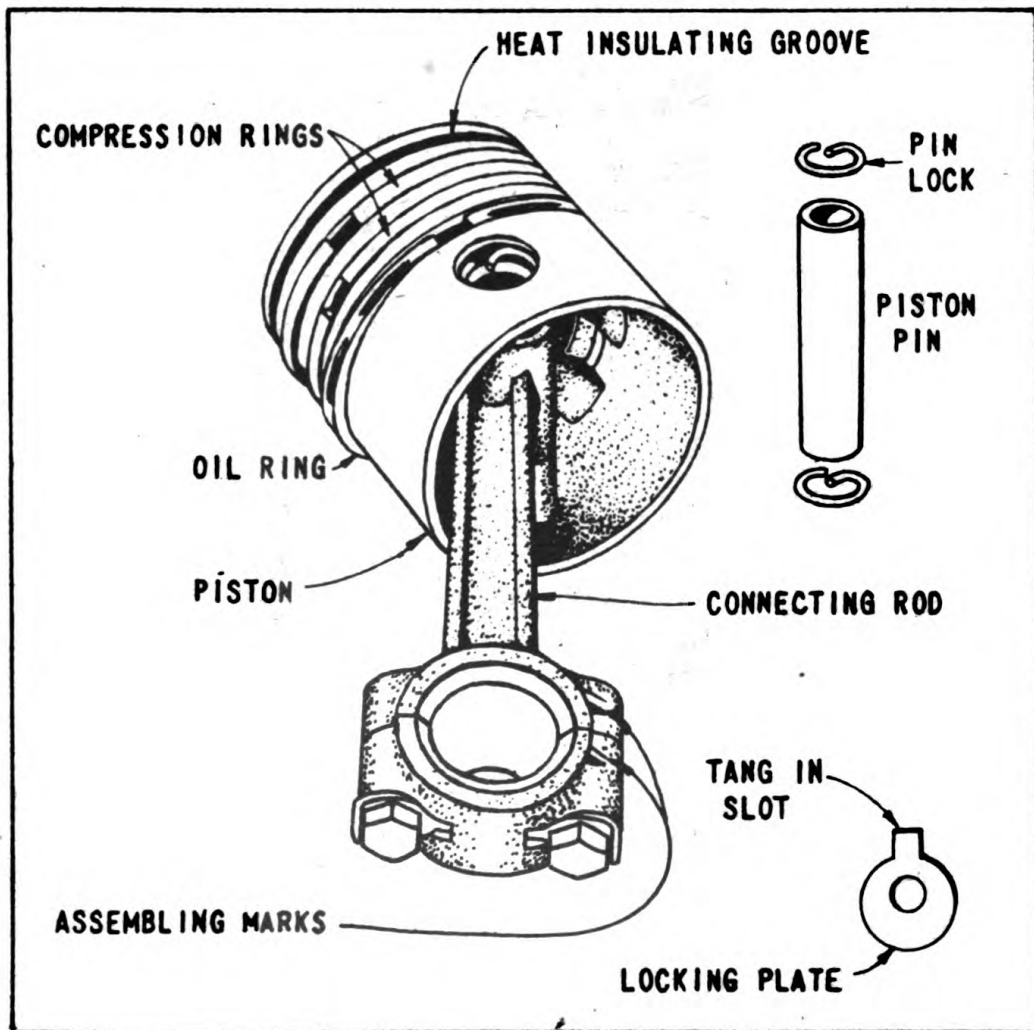

Figure 20.—Piston assembly
b. When fitting a new piston in the engine, assemble it with the free side pin hole, with an X on the boss, toward the magneto side (fig. 20).